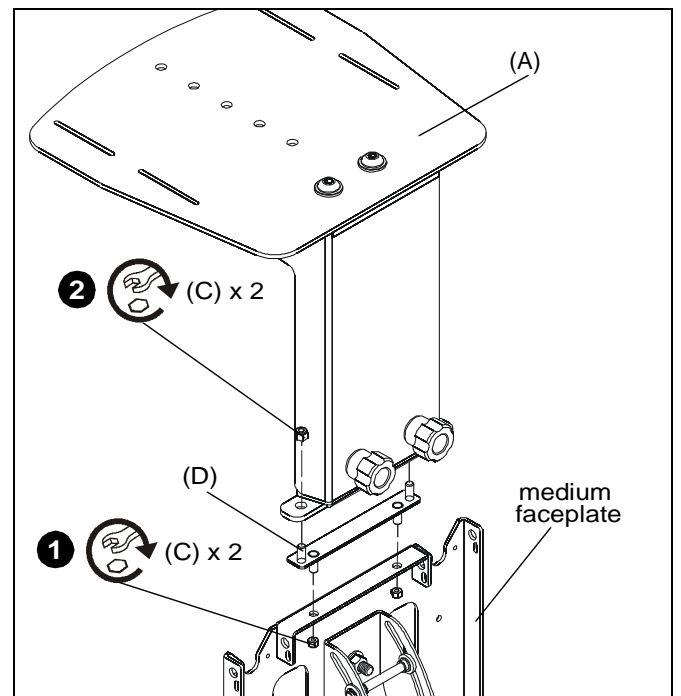

Figure 3
1. Use two 1/4-20" lock nuts (C) to secure medium faceplate adapter (D) to top or bottom of medium faceplate. (See Figure 3)
2. Thread two 1/4-20" lock nuts (C) onto screws to secure shelf to medium faceplate adapter (D). (See Figure 3)